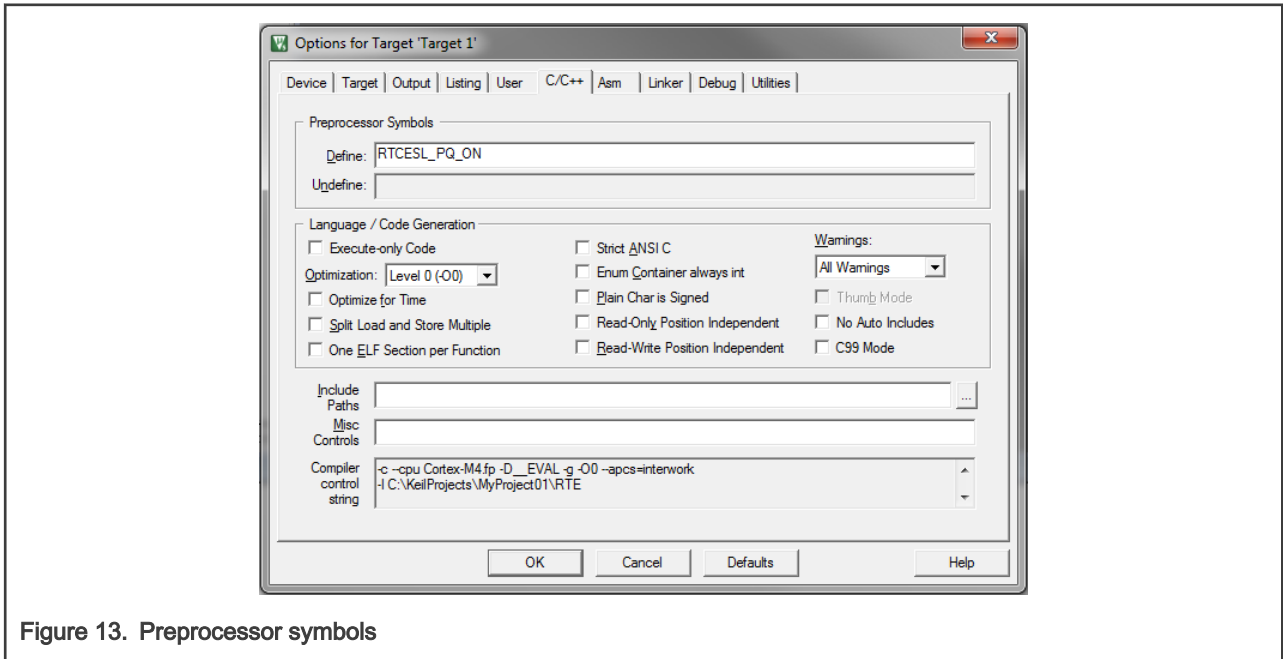

Figure 13. Preprocessor symbols
2. Select the C/C++ tab. See Figure 13.